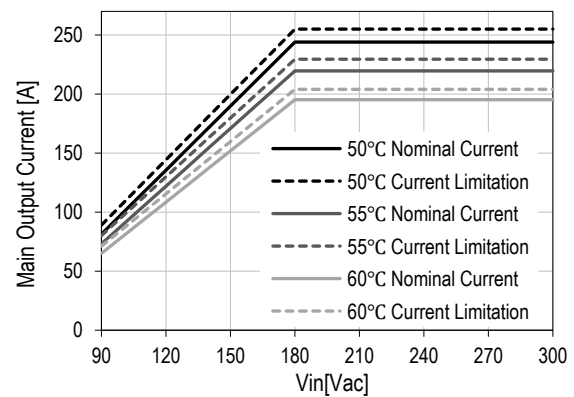

Figure 20. Derating on  $V_1$  vs  $T_a$  &  $V_{in}$
4) See Figure 20 for linear derating  $> 50^\circ\text{C}$
The main output current limitation level  $I_{V1 \text{ lim}}$  will decrease if the ambient (inlet) temperature increases beyond 50 °C (see *Figure 20*). Note that the actual current limitation on  $V_1$  will kick in at a current level approximately 10A higher than what is shown in *Figure 20* (see also section 9 for additional information).